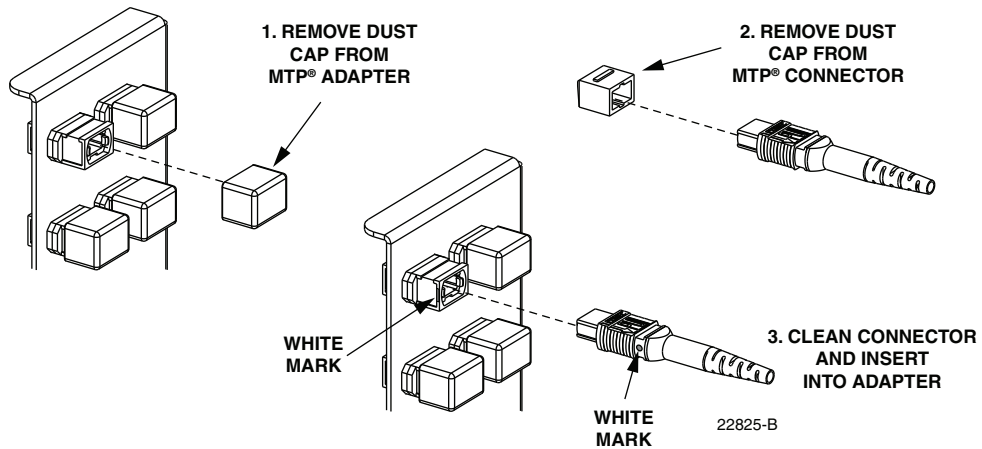

Figure 53. Connecting MTP® Connector to MTP Adapter
12. Remove the dust caps from the bulkhead adapters and the cable MTP® connectors as shown in Figure 53.